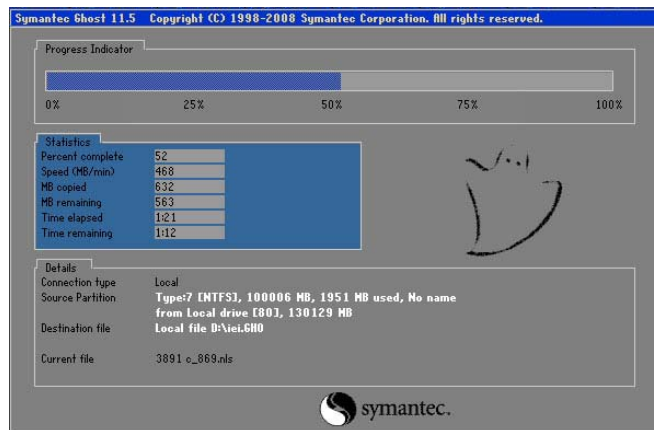

Figure B-19: Image Creation Complete
Step 10: The Symantec Ghost starts to create the factory default image (**Figure B-19**).